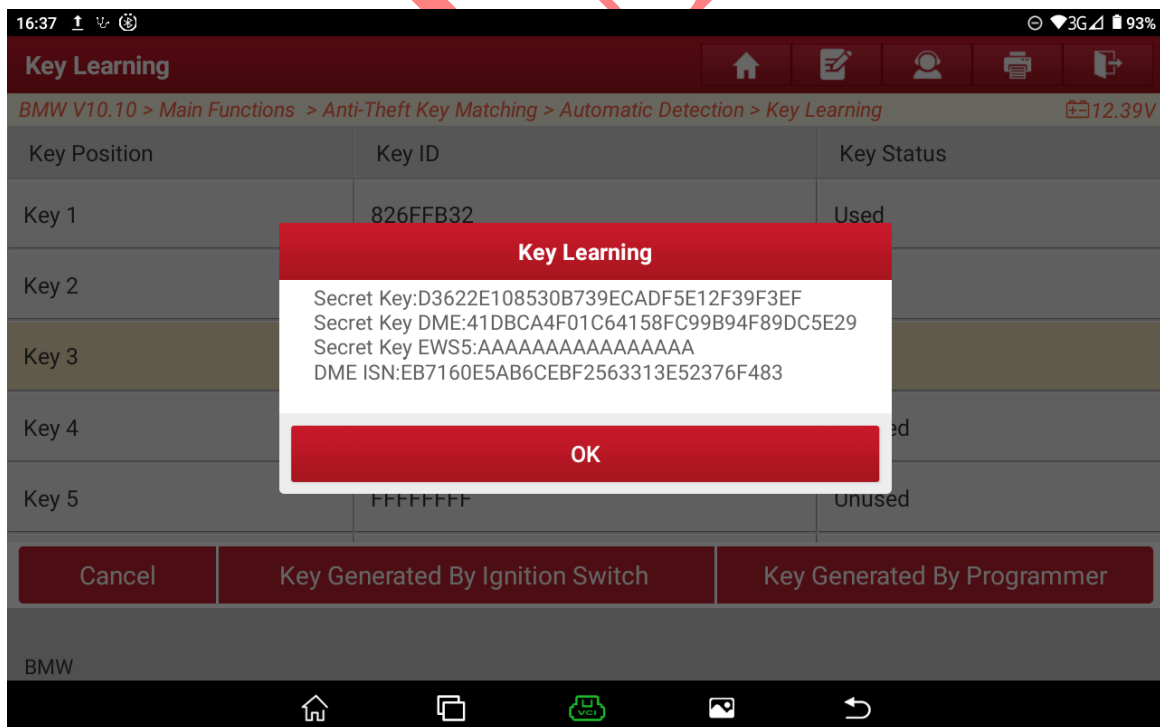

Figure 38
38. The anti-theft data is successfully read. Select “OK”, as shown in Figure 38;